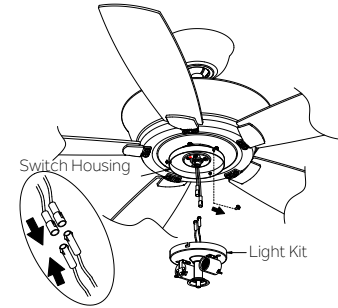

Fig. 22
**Step 1.** Remove 1 of the 3 screws from the switch housing and loosen the other 2 screws (do not remove). (Fig. 22)
**Step 2.** Hold the light kit close to the switch housing and connect the WHITE wires -from the light kit and fan by pushing the connectors together. Follow the same procedure with the BLACK wires. (Fig. 22)